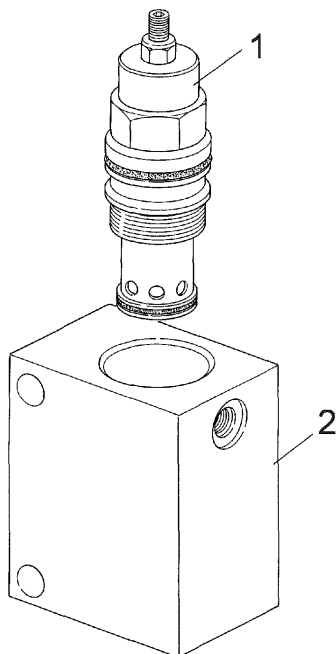

Fig. 7C.93. Exploded View of Priority Valve
3. Unscrew two bolts (3) and separate priority valve (2) from LH fender bracket (6).
4. Disconnect drain hose (1), hose (7) and priority valve to transmission hose (4) from the priority valve (2).
6. Remove the pressure regulator (1, Fig. 7C.93) from the valve housing (2). Remove and discard the valve seal kit and replace with new.